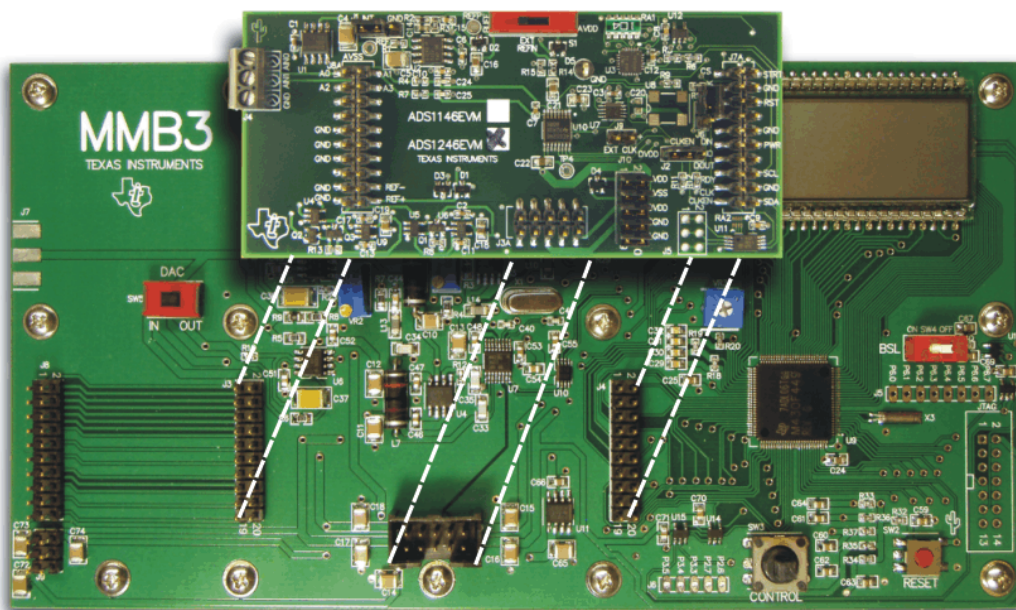

Figure 7. Connecting ADS1246EVM to MMB3
- Step 3. Plug the ADS1246EVM into the MMB3 as Figure 7 illustrates.